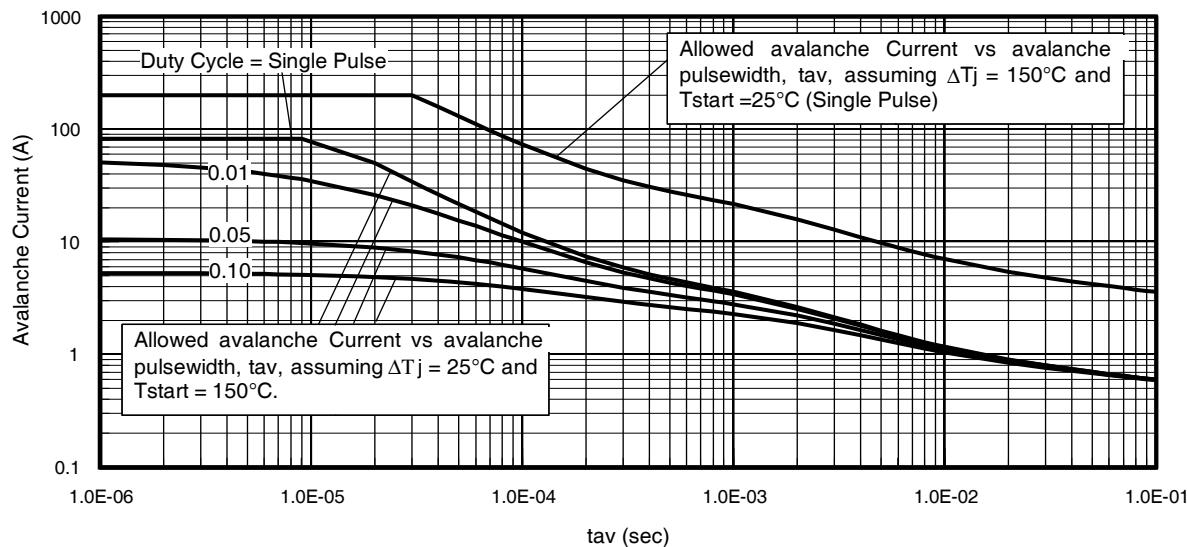

Fig 15. Typical Avalanche Current Vs. Pulsewidth
**Notes on Repetitive Avalanche Curves , Figures 15, 16:
7.  $\Delta T$  = Allowable rise in junction temperature, not to exceed  $T_{j\max}$  (assumed as 25°C in Figure 15, 16).